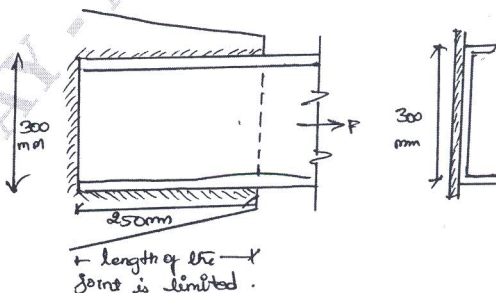

Fig.Q3(b)
- b. Design a welded end connection for a tension member as shown in Fig.Q3(b), consisting of ISMC 300 to carry a load equal to full strength of the member, the length of the joint is limited to 250 mm. (08 Marks)